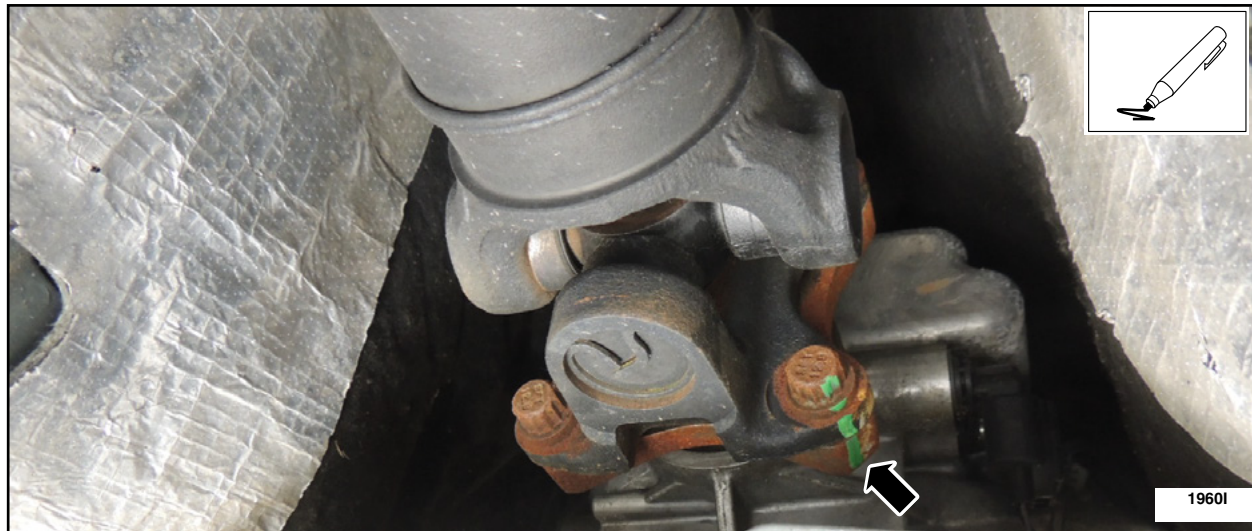

FIGURE 8
9. Mark the driveshaft and transmission flange using a paint stick or suitable tool. See Figure 8.